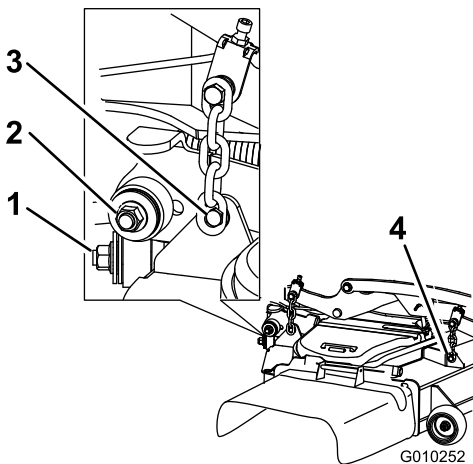

Figure 106
7. Remove and retain the hardware on both sides of the deck as shown in Figure 106.